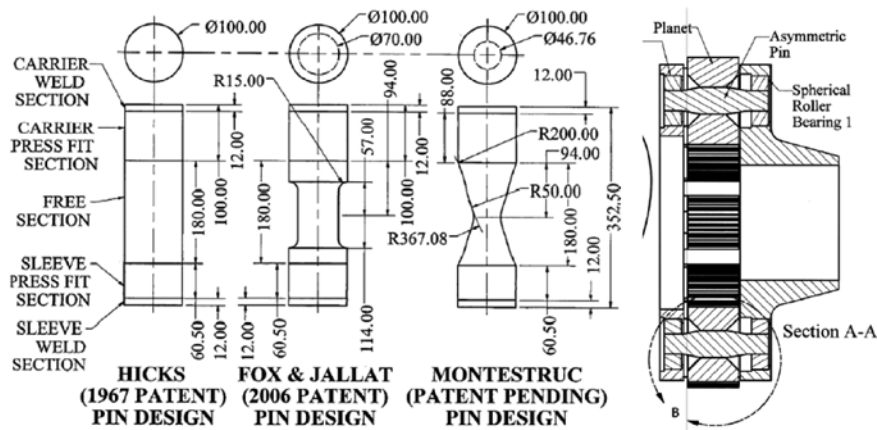

Figure 17—Different pin shapes compared (Ref. 6).
2. Flexpin with original design by Ray Hicks (see Figure 17, left, for pin shape)
3. Flexpin with circumferential groove (see Figure 17, second from left, for pin shape)
4. Flexpin with spindle shape (see Figure 17, second from right, for pin shape)
5. Flexible conventional planet pin supported on both sides (see right side of Figure 17)
The target in these optimizations is to achieve the lowest stiffness (hence best load sharing among the planets) while not overstressing the pin. While the original Flexpin (Figure 17, left) was strictly cylindrical, the most common design uses a series of several cylinders (second design from left). Montestruc then further improved the design by using two tapered halves. The purpose of the below optimization is to further refine this design to achieve near-constant stress distribution along the pin.